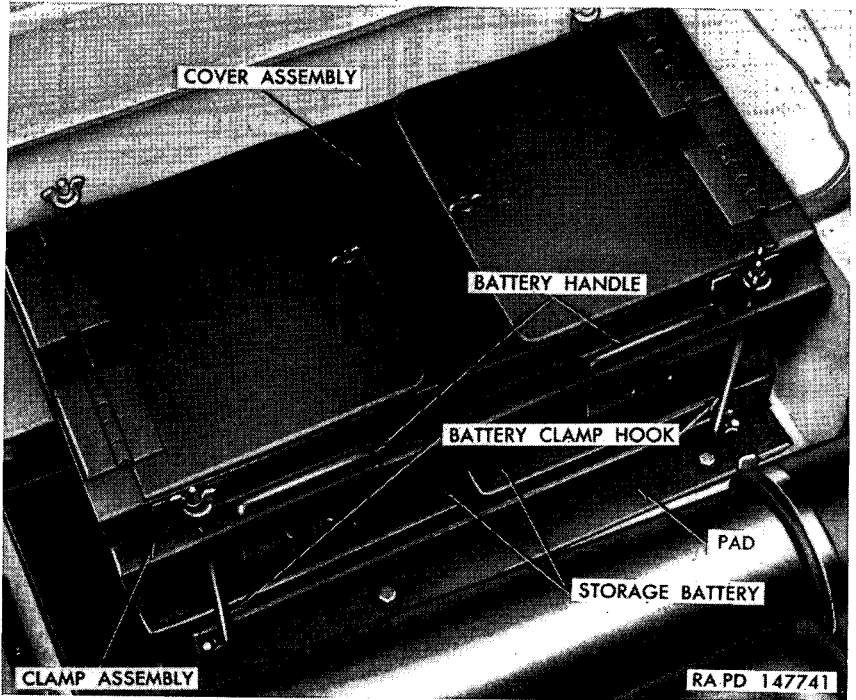
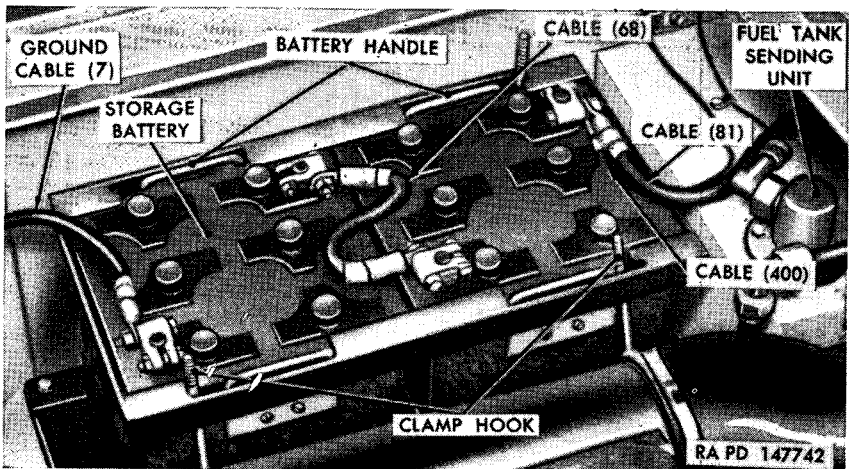

Figure 209. Left side batteries—installed view.
Figure 210. Left side batteries with cover removed.
- (5) *Batteries.* There are two sets of batteries supplying electrical current for the vehicle. In each set, two 12-volt, lead-acid-type batteries are connected in series by cable (68). One set is located in the top-front center of the engine compartment (fig. 101) directly in back of the turret, and feeds current to the master junction box through cable (81). The other set is located in the left side of the engine compartment (figs. 209 and 210) on top of the fuel tank and feeds current to the master junction box through another cable (81) and to the crew compartment heater control box in the hull accessories panel through cable (400). Negative terminal posts on both sets of batteries are grounded to the hull by heavy electrical cables (7) (fig. 210).
- (2) *Side batteries* (fig. 209 and 210). Turn off master relay switch (fig. 18). Lift up five engine compartment grille doors (fig. 101). Unscrew four anchor hook wing nuts enough so that hooks can be turned one-quarter turn to loosen hooks from pins.
- (2) *Side batteries* (figs. 209 and 210). Position batteries on battery base plate so that positive terminal posts are toward left side of hull. Connect positive cables (81) and (400) to front battery positive terminal post. Connect interconnecting cable (68) to front battery negative post and rear battery positive post. Connect ground cable (7) to rear battery negative post. Test battery installation (*d* below). Close five engine compartment left grille doors (par. 101).